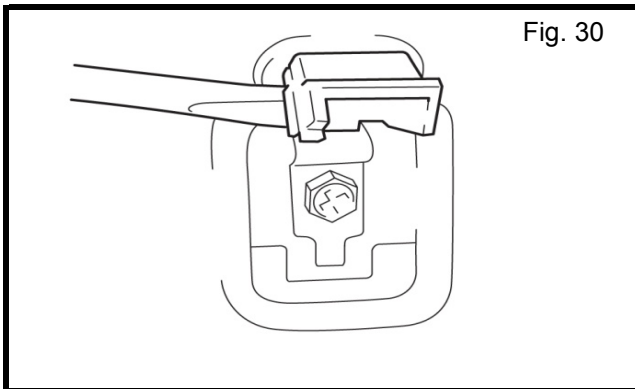

Fig. 30
- a) Gently pry cargo hook cover up with trim tool as shown in Fig. 30.